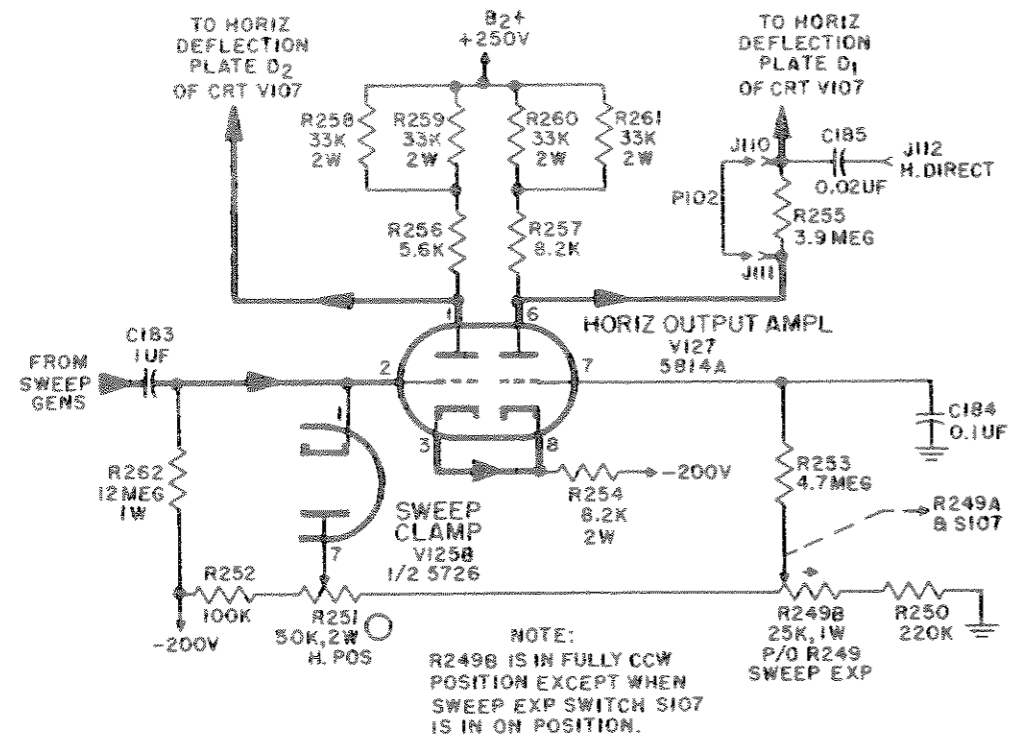

Figure 2-8. Horizontal Output Amplifier, Simplified Schematic Diagram.
(1) HORIZONTAL OUTPUT AMPLIFIER (See figure 2-8) – The Horizontal Output Amplifier, V127, consists basically of a dual triode type JAN5814A, connected in a cathode – coupled paraphase circuit which converts the unbalanced input voltage, from the sweep circuits, to balanced (push-pull) output for application to the horizontal deflection plates D1, D2 of the crt. Any voltage change on the grid of V127A causes a similar voltage to appear across the unbypassed cathode resistor R254 common to both V127A and B. With the grid grounded, the cathode voltage of V127B can be considered the same as its grid voltage but with opposite polarity. Thus the single-ended input signal causes plate signal outputs of V127A and B to be equal in amplitude but of opposite polarity, that is, push-pull. Coupling capacitor C183 and resistor R262 have a long time constant in order to pass the lower frequency sawtooth waveform with a minimum of distortion. The panel control R251, H. POS, controls the static bias on the grid of V127A, which varies the degree of voltage unbalance between the plates of V127, and changes the starting position of the sweep trace. The sweep signal input at the grid of V127A is clamped by the diode V125B, SWEEP CLAMP, to the value of negative bias set on R251. This dc restoration prevents horizontal jitter by insuring that each recurring trace starts from exactly the same position. Variable resistor R249B is effective only when the expanded sweep circuit is used. It serves to shift the whole trace slightly to the left as R249 SWEEP EXP is advanced, so that only the more useful section of the expanded sweep trace is presented on the screen. Capacitor C184 keeps the grid of V127B at signal ground potential. When direct connection is made to the H DIRECT jack J112 the jumper plug P102 must be removed from across resistor R255 which then isolates the deflection plate, D1, from the Horizontal Output Amplifier while still allowing positioning with the panel control H POS, R251.